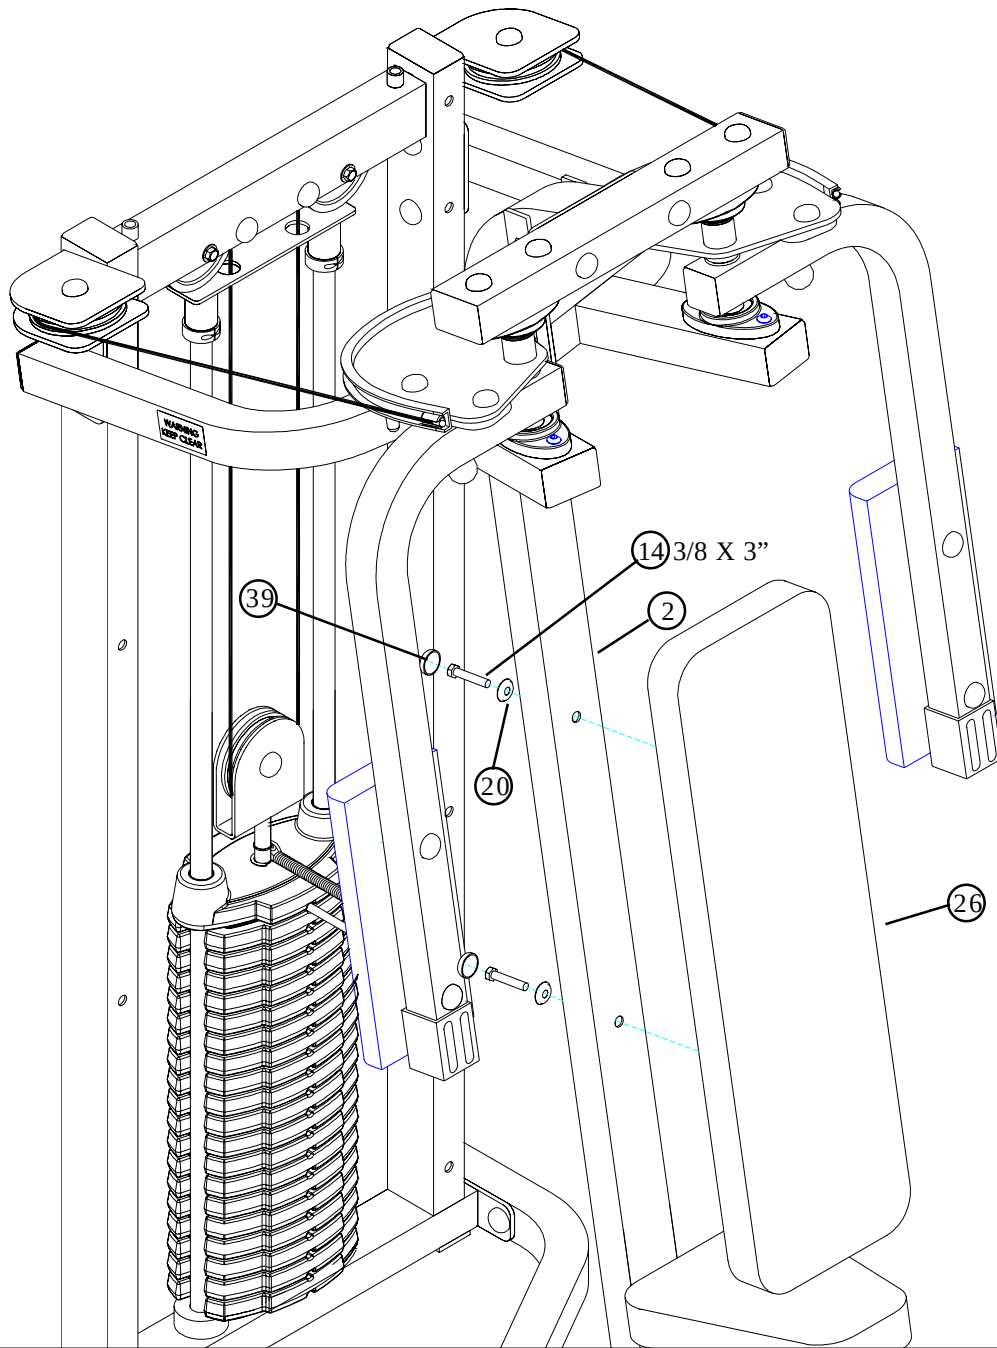

FIGURE 13
- **SECURELY** assemble the BACK PAD (26) to the SEAT FRAME (2) using two RH CAPS (39), two 3/8 X 3" BOLTS (14) and two 3/8" RH WASHERS (20) as shown in FIGURE 13.
- Assemble the PLACARD LABEL (32) or the FOREIGN LANGUAGE PLACARD LABEL (33) to the FRONT SHROUD as shown in FIGURE 13.